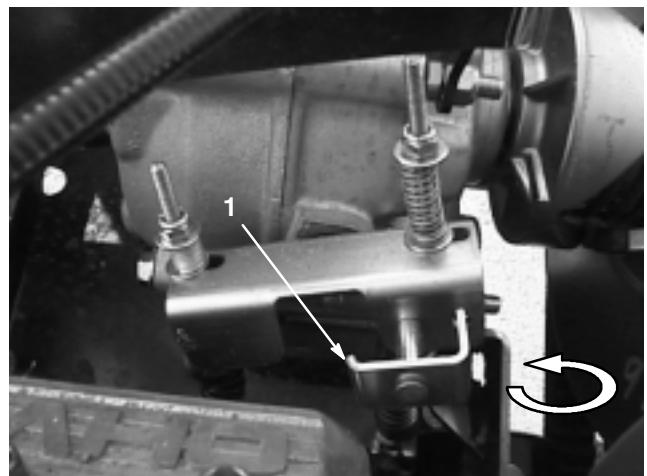

Figure 15
1. To lock the transaxle in neutral, rotate the locking pin 180 degrees on the shift block (Fig. 15).